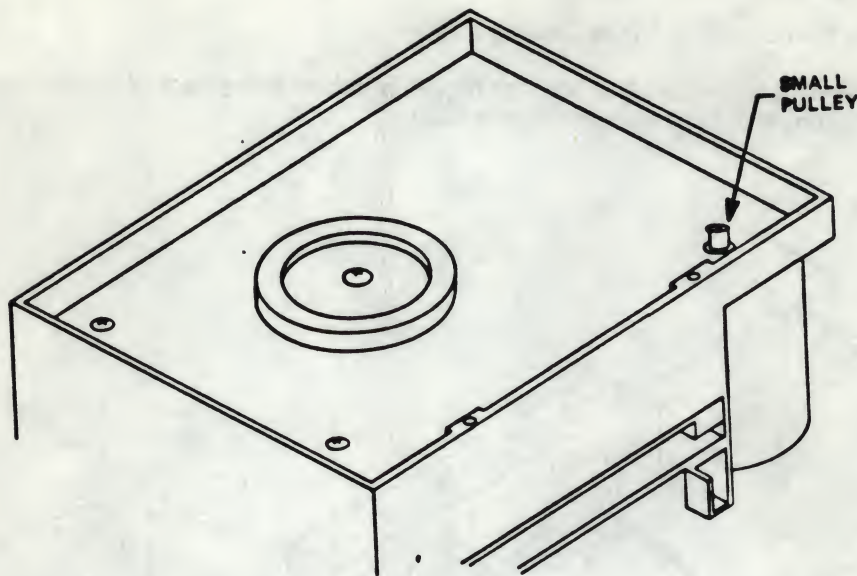

Figure 5-19
5.10.7 Insert the pulley of the new Drive Motor Assembly through the bottom of the chassis (see Figure 5-19).